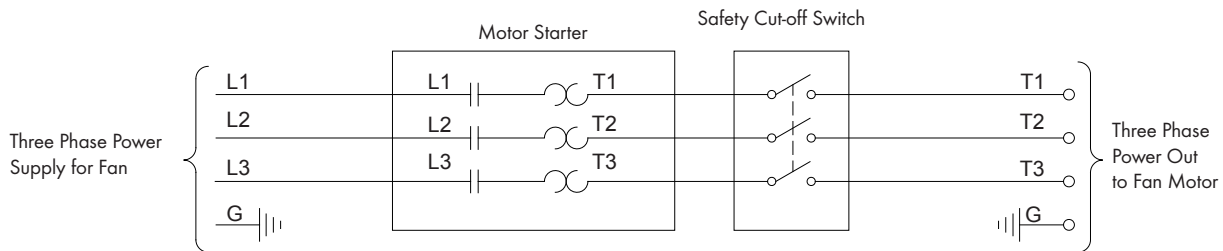

Figure 8B
**Three Phase Fans:** motor overload protection should be provided for each fan. A three pole motor starter or slow blow motor fuses must be used. See Figure 8B.